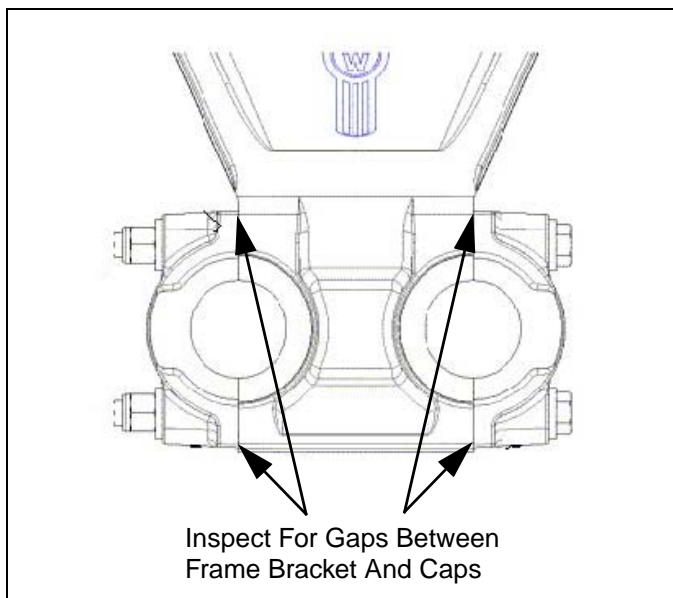

Figure 17-24
12. Inspect all joints for gaps between frame bracket and caps. See Figure 17-24.